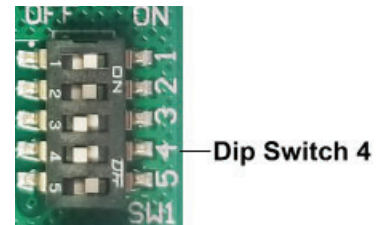

FIGURE 12: Energy Saving DIP Switch 4
To ENABLE Energy Saving Mode, set DIP Switch 4 to ON (ENABLE) to allow the FAVC to not control the central fan during a call for ventilation. In the ENABLE mode, the FAVC will independently energize the vent (V) and auxiliary fan (E) terminals when fresh air ventilation is required; and the HVAC system is not running. Refer to Figure 12 and Figure 13 for DIP Switch 4 setting to configure FAVC central fan control during a call for ventilation function.